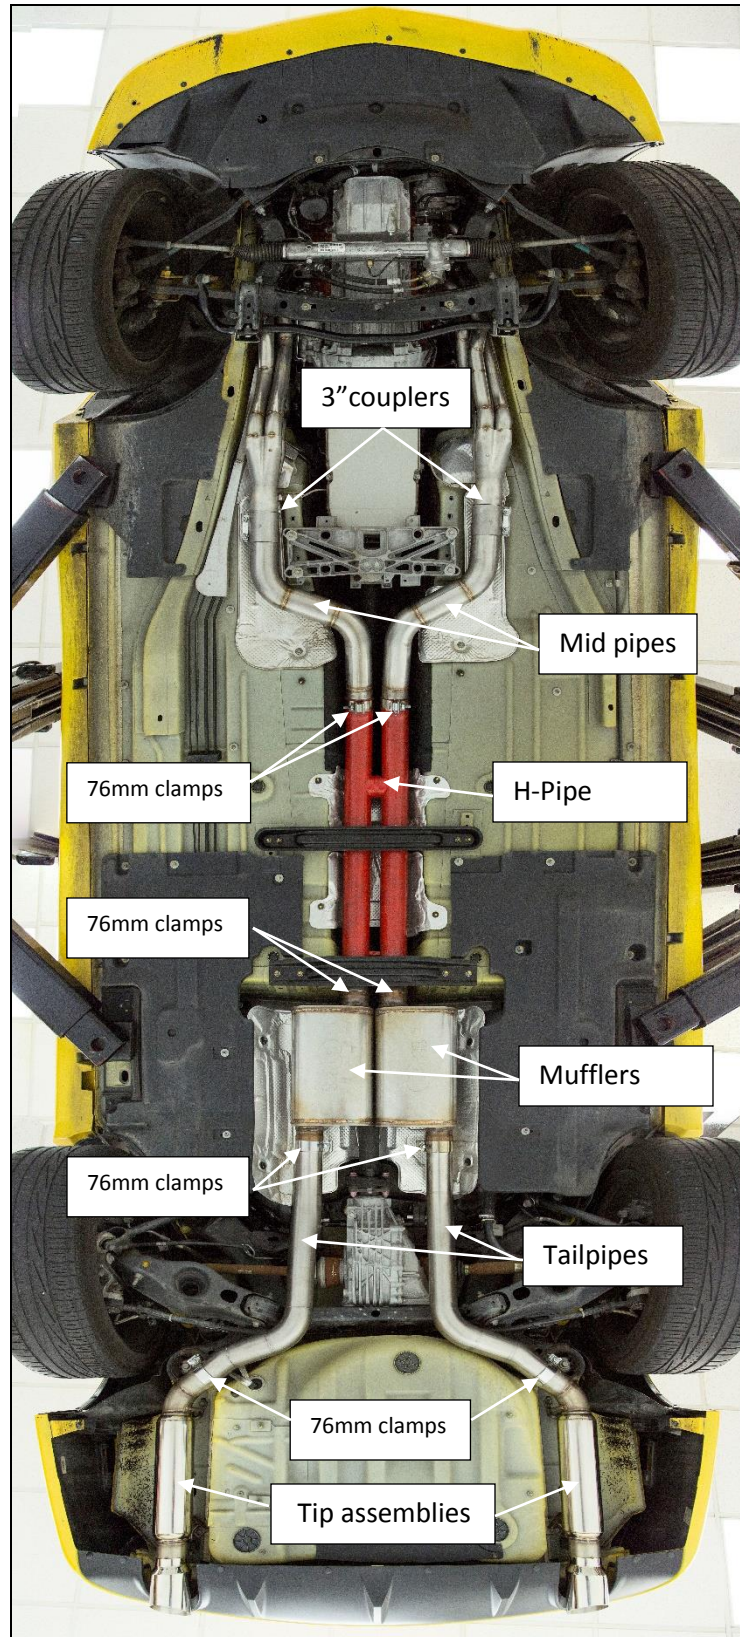

Figure 3
11. Install the **Right side** tailpipe into the muffler or muffler delete pipe. Spray the isolator at the differential with WD-40® and rotate the tailpipe hanger into the isolator (**Figure 3**).
12. Install the **Left side** tailpipe into the muffler or muffler delete pipe. Spray the isolator at the differential with WD-40® and rotate the tailpipe hanger into the isolator (**Figure 3**).
13. Install a supplied 76mm band clamp over the outlet of each tailpipe with the bolt to the outside and the nut facing down (**Figure 3**).